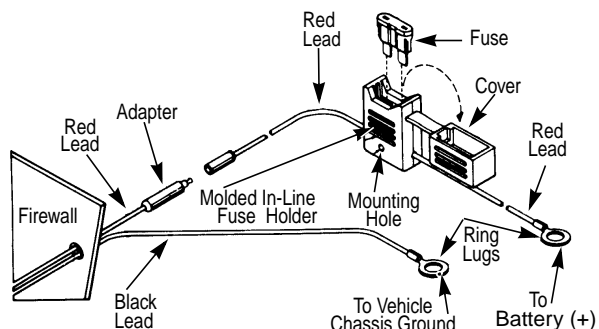

Figure 2-2. Power Cable Assembly
5. Install ring lugs (supplied) onto stripped end of power cable black lead, and onto stripped end of the red lead on the fuse holder. See Figure 2-2.
6. Locate the fuse holder as close to the battery as possible and away from any hot engine components. Mount the fuse holder using the provided mounting hole and dress the wires as necessary. Connect the fuse holder red adapter lead to the mating receptacle on the red lead of the power cable. See Figure 2-2.
9. Plug the fuse into the in-line fuse holder as shown in Figure 2-2.